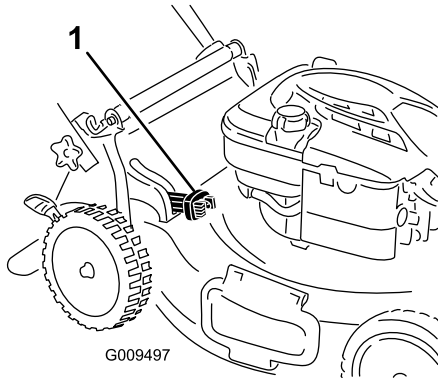

Figure 16
- For bagging the grass and leaf clippings, press the button on the bag-on-demand lever, and move the lever forward until the button on the lever pops up (Figure 16).